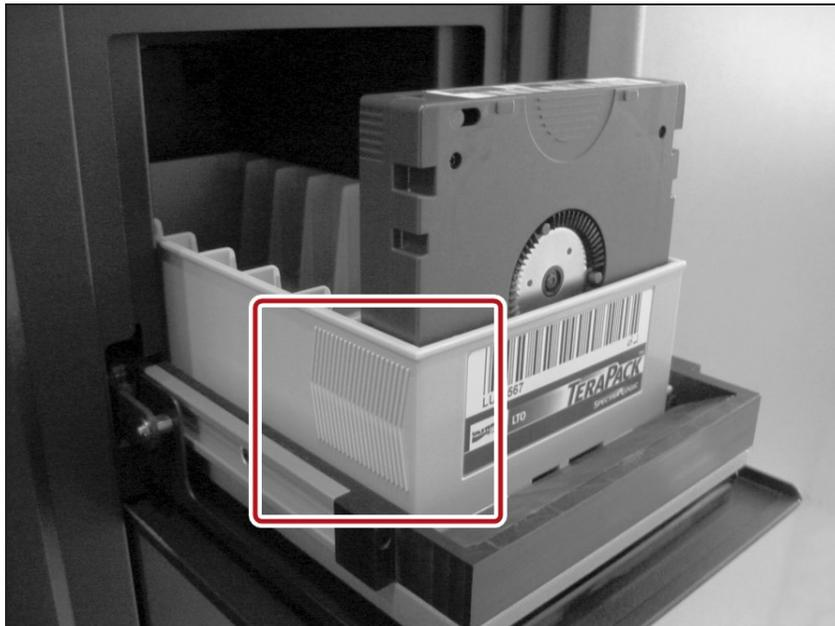

Figure 235 Insert a magazine into the TAP, making sure that it is correctly oriented.
3. Insert a magazine into the tray on the open TAP, making sure that it is oriented with the textured surface on each side toward the outside of the library, as shown in Figure 235 on page 326.